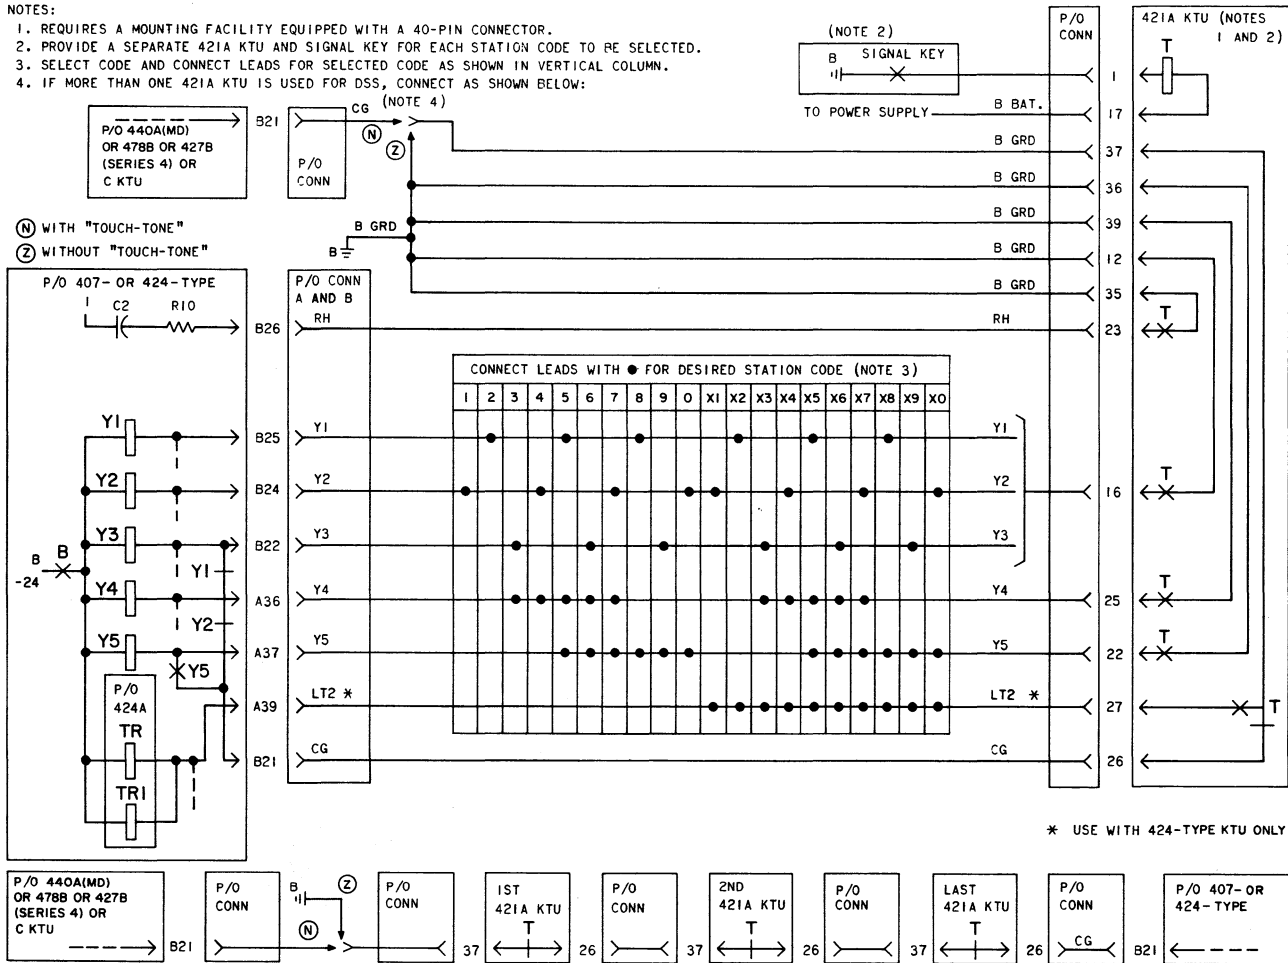

Fig. 7—Condensed Functional Schematic of 421A KTU (Wired for DSS)
3. IF DSS IS REQUIRED, SEE FIG. 7
5. IF DSS IS REQUIRED, SEE FIG. 7.
6. 440A(MD) OR 478B KTU MAY BE USED TO PROVIDE TOUCH DIALING IN PLACE OF 426A WITH 427B (SERIES 4) OR C KTUS.